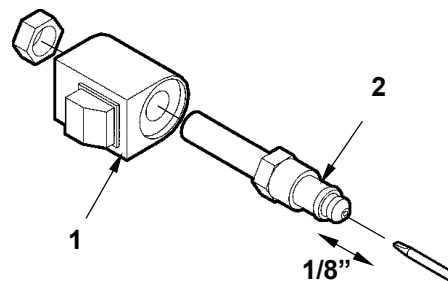

FIG. 40-2
3. Check if Solenoid Valve is getting power by holding a screwdriver against the top nut of the Solenoid. Push Control Switch to "LOWER" position to energize solenoid (FIG. 40-2). A good solenoid will attract (magnetically) the screwdriver to the nut and make it difficult to pull the screwdriver away from the nut.
4. Check the Valve Stem by removing the Coil Assembly (Item 1, FIG. 40-2). With platform supported, unscrew the Valve Stem (Item 2, FIG. 40-2) from the Pump. Push on the plunger located inside the Valve Stem by inserting a small screwdriver blade in the end. If the Plunger does not move freely (approximately 1/8") replace the Valve Stem.